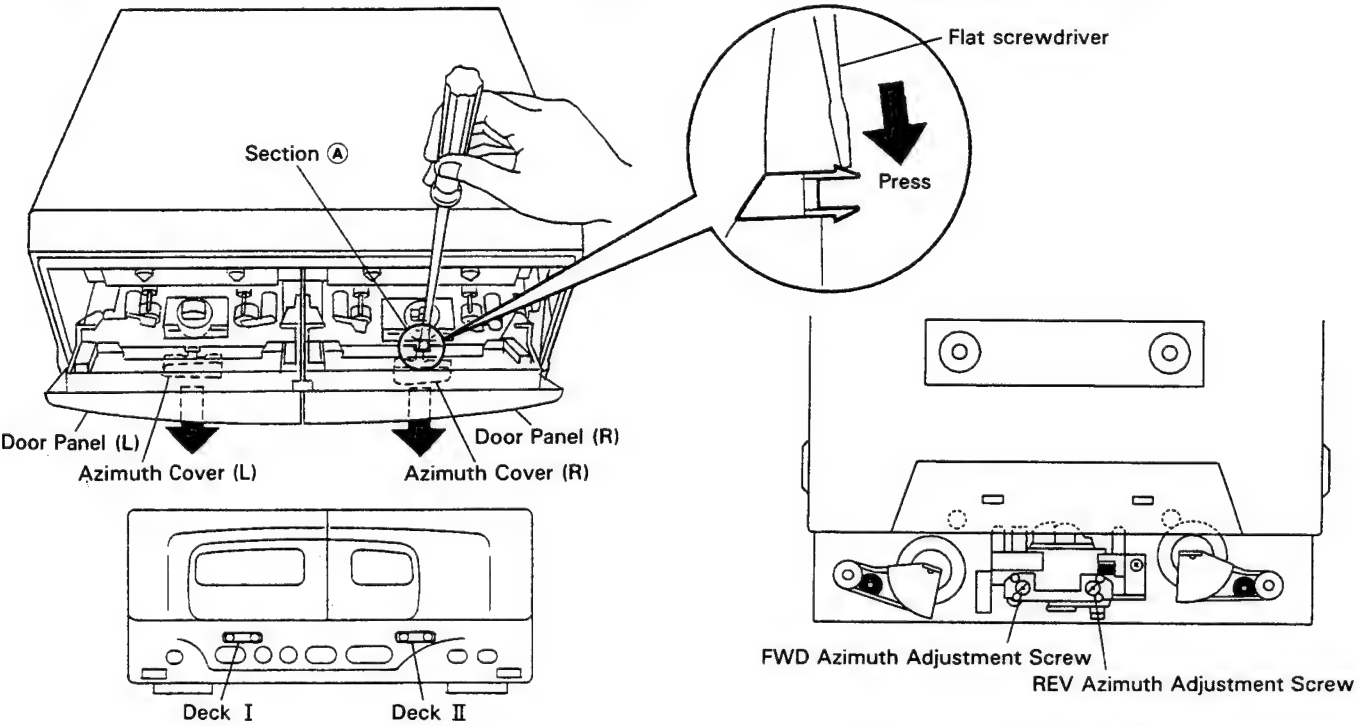
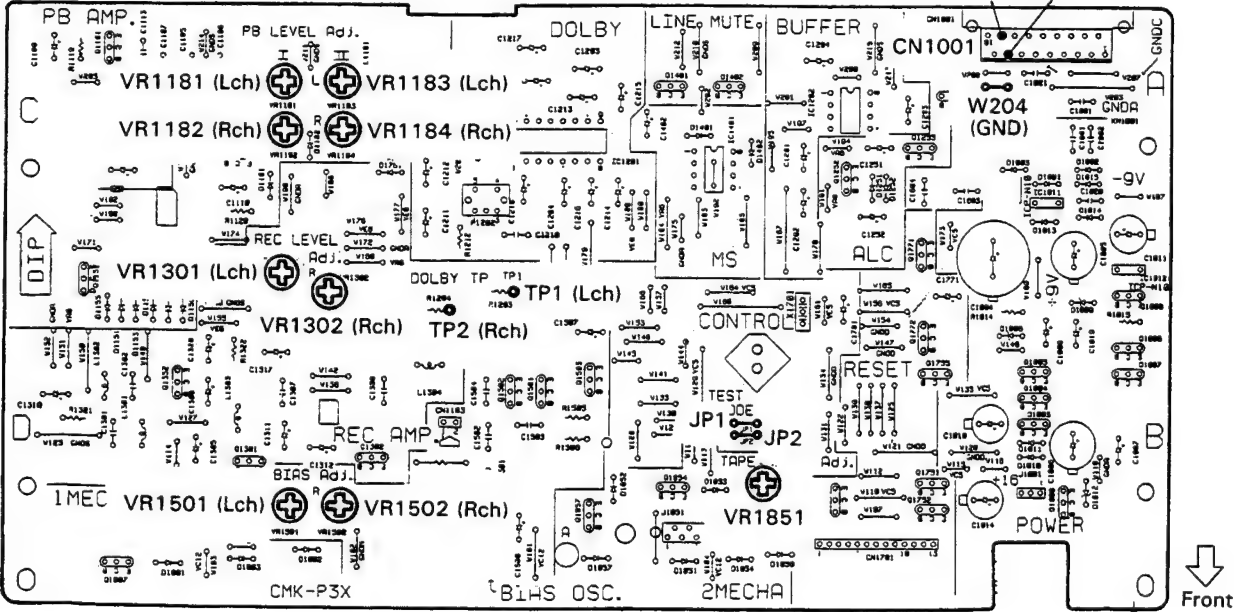

Fig. 2-3 Head Azimuth Adjustment
Fig. 2-4 Adjustment and Measurement Points
● Adjustment points and test points are shown in Fig. 2-3 and Fig. 2-4.
Switch on the power supply while short-circuit the jumper wires JP1 and JP2 in the TC. MAIN Assy (refer to Fig. 2-4), and afterwards disconnect the jumper wires.
- The ground at the time of adjustment shall be W204 (refer to Fig. 2-4).